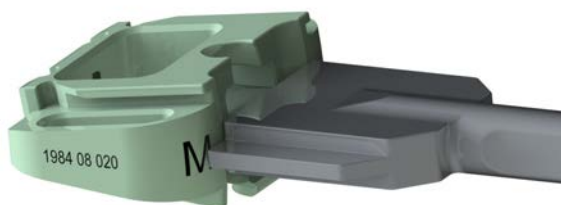

Fig. 30
- Push the Core Loader down into the Inserter ensuring the nose of the loader locates within the Locking Cap slot (Fig. 30).